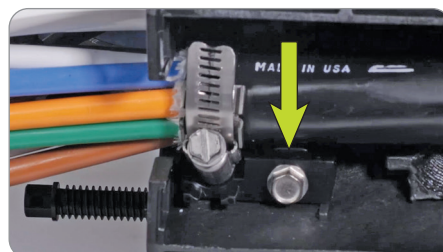

Figure 20
- Confirm CAU is fully seated and flush to base. Fully tighten CAU retention bolt. (Figure 20)